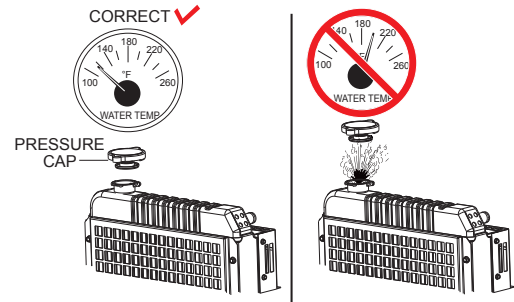

Figure 43. Radiator Pressure Cap Removal
1. Remove the radiator pressure cap (Figure 43) only if the coolant temperature is below 120°F (50°C).